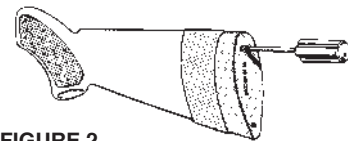

FIGURE 2
3. Attach the new buttstock in reverse manner, as shown (Figure 2). Some shotgun models require the use of a different length bolt. If one is included, use it to attach your new stock. Use any washers that you have and tighten with a moderate to high degree of torque.